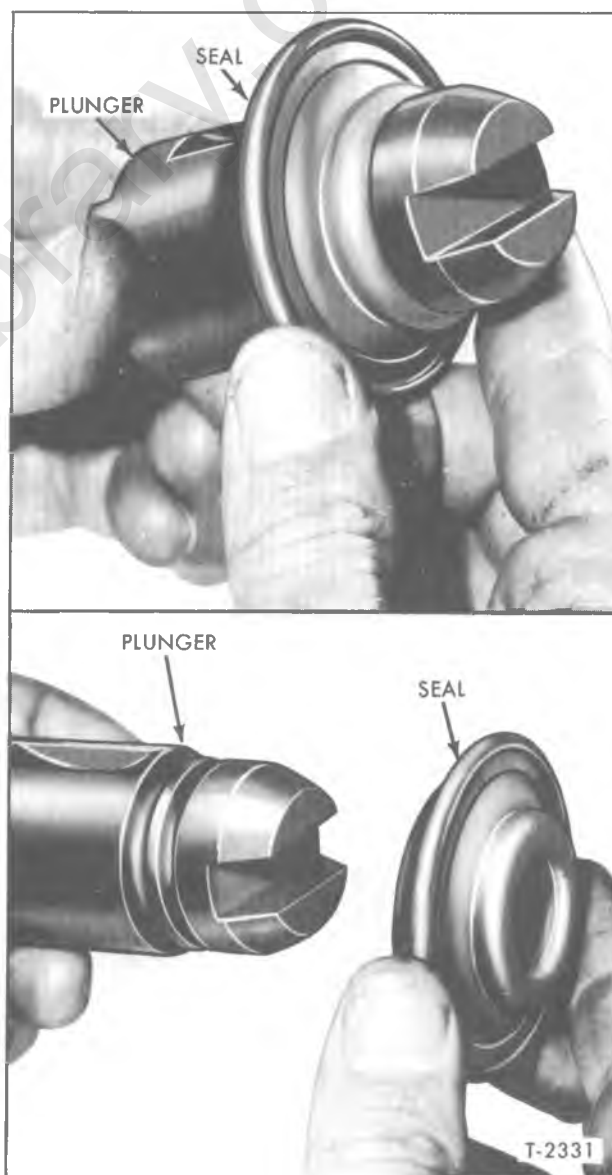

Figure 32—Installing Seal on Anchor Plunger
1. Install new seals on anchor plungers as shown in figure 32.